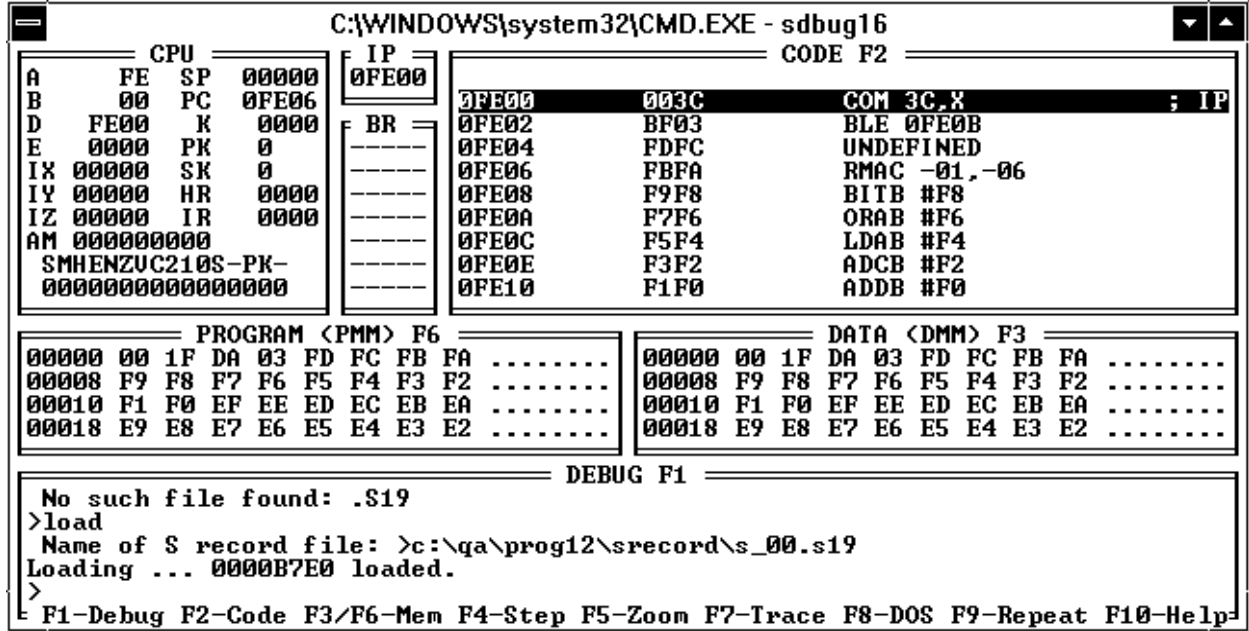

Figure 2-2. SDbug16 Main Screen
Figure 2-2 shows the SDbug16 main screen, which consists of the CPU window, the instruction pointer (IP) window, the breakpoint (BR) window, the code window, the program (F6) memory window, the data (F3) memory window, and the debug (F1) window.